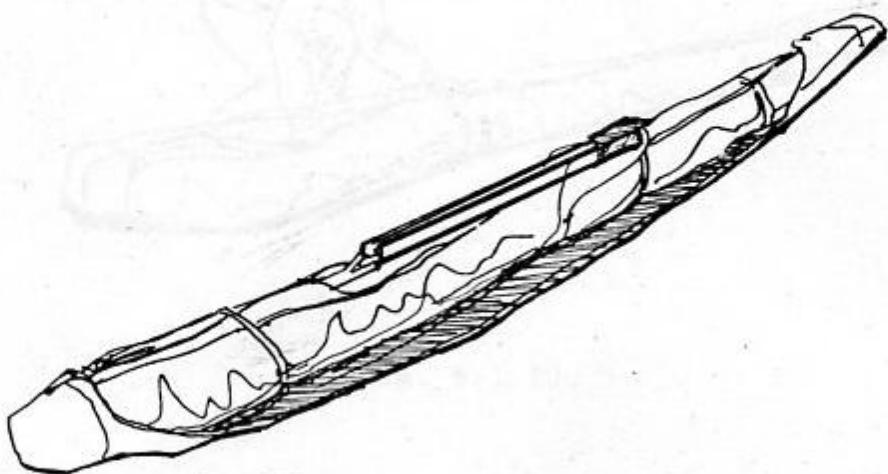

Fig. 5.1.8.
11. Detach the speedbar and place it between the leading edges. Fit the spacer over the downtubes junctions in the low control bar corners and pack the downtubes into the package (Fig. 5.1.8).